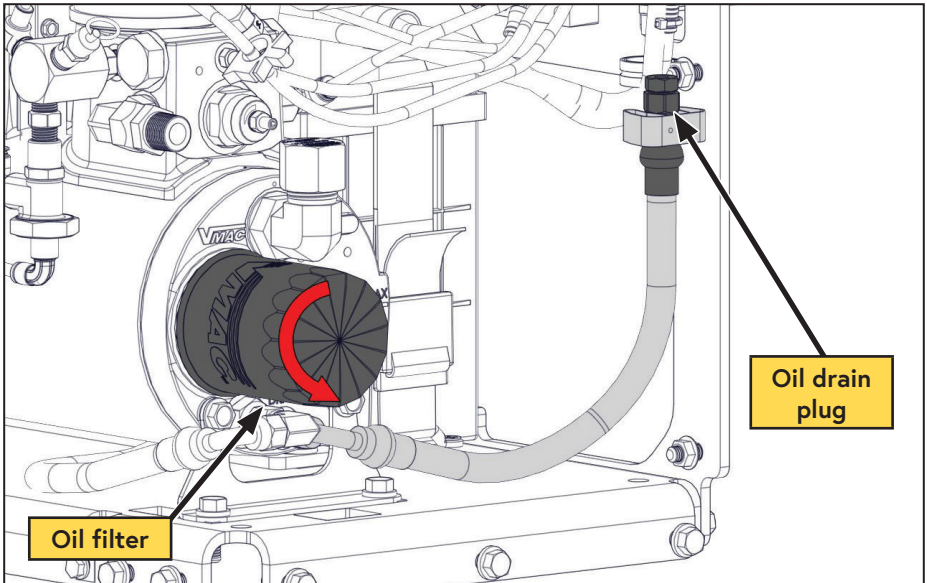

Figure 34 — Compressor oil filter
- Remove the oil drain extension from its holder on the frame and drain the oil into a container with a capacity of at least 4 L (1 USG) (Figure 34).
- Remove the oil filter (Figure 34).